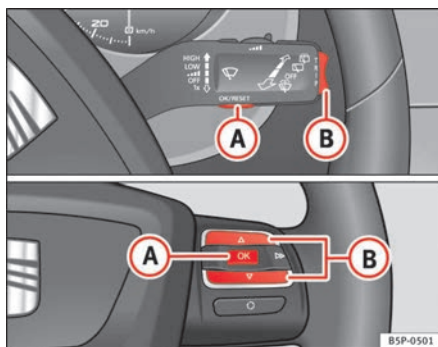

Fig. 39 Rocker buttons A and B. Steering wheel controls.
A **Service pre-warning** will appear in the mileage displays if a service is due soon. A “spanner” symbol appears and the display “km” with the distance that can be driven until the next service appointment is due. The display will change after approximately 10 seconds. A “clock symbol” appears and the number of days until the service appointment should be carried out. The following message is shown in the instrument panel display: **SERV. IN ... KM OR ... DAYS**. The service message will disappear approximately 20 seconds after the ignition is switched on or the engine is running. The normal display can be resumed by pressing the reset button on the trip counter or by pressing the rocker switch of the MFI ⇒ page 62, fig. 39 ②.
- When the ignition is on, briefly press button \Rightarrow fig. 39 **A** on the windscreen wiper lever to change from one memory to another or press button **A** on the steering wheel controls \Rightarrow fig. 39.